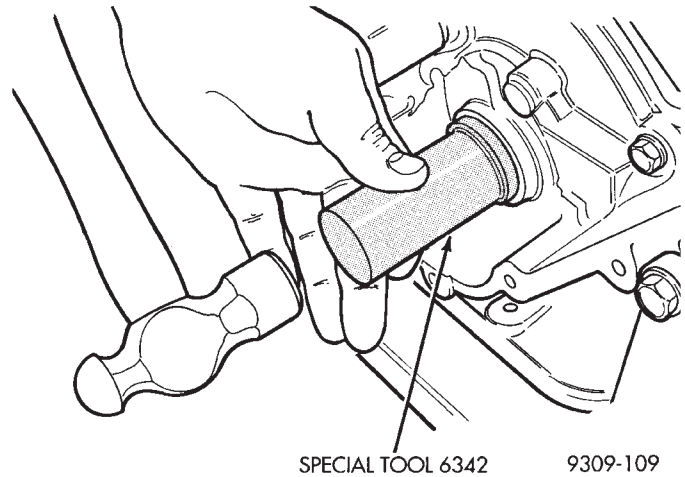

Fig. 79 Crankshaft Oil Seal with Special Tool 6342—Installation
- (1) Install crankshaft seal using Special Tool 6342 (Fig. 79).